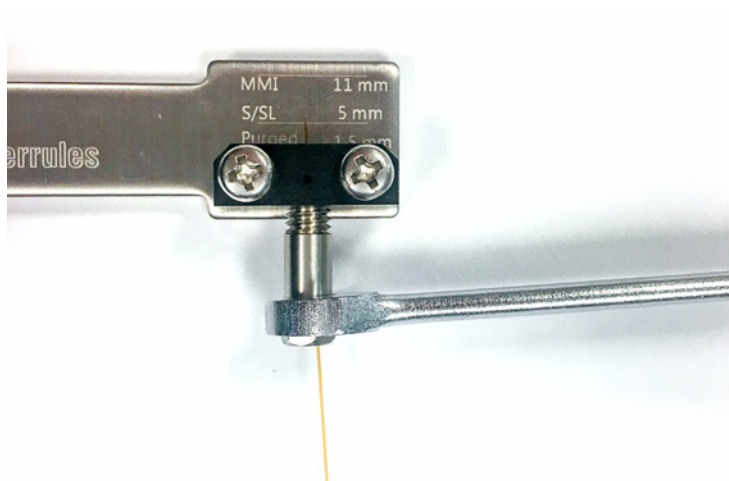

Figure 16. Tighten the column nut
- c** Check if the ferrule is gripping the column. If yes, stop. If not, continue to tighten the column nut in small 5- to 15-degree increments. Check after each increment to see if the ferrule is gripping the column. Stop as soon as gripping occurs. See **Figure 16**.